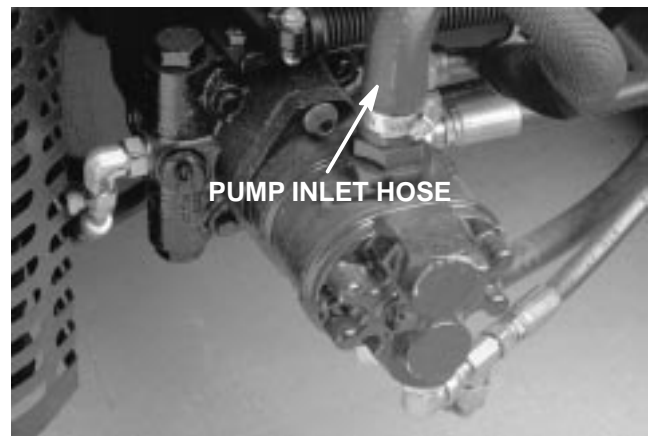

Figure 65
**IMPORTANT:** Flush hydraulic system when changing from petroleum base hydraulic fluid. Operate machine under normal operating conditions for at least four (4) hours before draining.
2. Clean area around hydrostat and pump inlet hose. Clamp pump inlet hose. Remove hose from hydrostat, release clamp, and drain reservoir into a suitable container. Drain hydraulic system. Make sure lift cylinders, hoses, and tube lines are drained while the system is warm. Discard filter (Fig. 65).